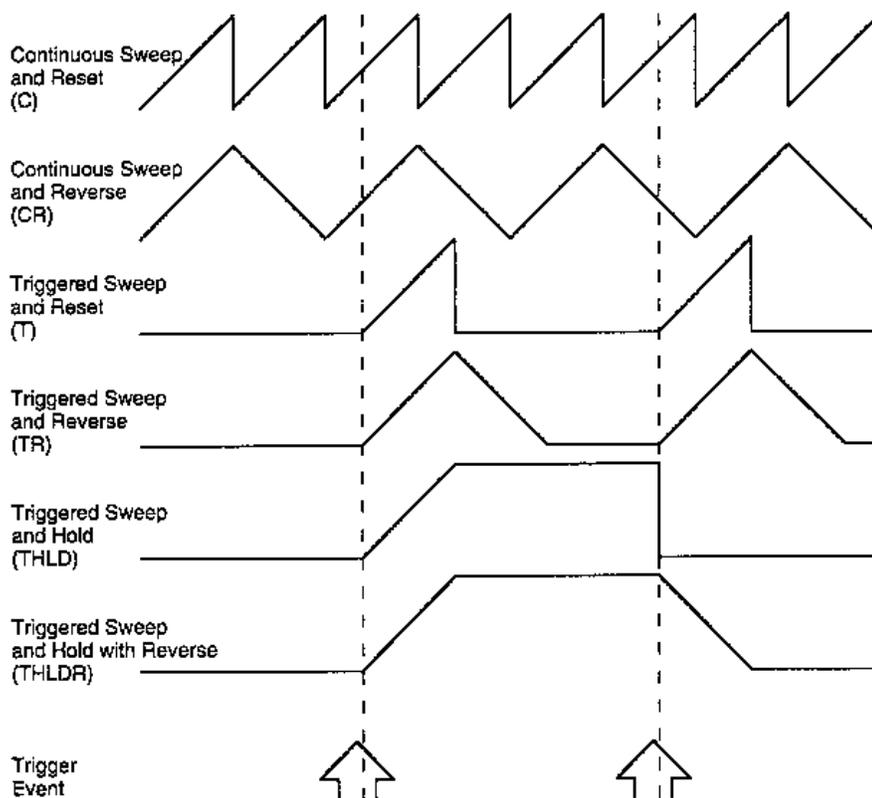

Figure 3-10. Sweep Mode Characteristics.
2. Note that the Sweep Mode (8) is Off and that none of the sweep mode indicators (7) are on.
3. Use Figure 3-10 to select a Sweep Mode. In the figure, the ramps represent the instantaneous value of oscillator frequency and the horizontal axis is time. Sweep Start frequency (9) is assumed to be set below Sweep Stop frequency (10), but this does not need to be the case. Therefore in this figure, the bottom of a ramp is the start, and the top of a ramp is the stop. The time of one ramp transition, either up or down, is the Sweep Time (12). An abrupt transition is a RESET, or ramp flyback time, and this is less than 1 ms.
4. After selecting a mode from the figure, set the generator to that Sweep Mode (8). Note that the appropriate Mode indicator (7) is on. The generator is now sweeping if a continuous mode is selected. Press the Trigger key (14) to initiate a sweep in a triggered mode. Connect the selected 50 Ω or 600 Ω output to an oscilloscope. The SWEEP OUT BNC (6) can then be used as an external trigger, second channel input triggering source, or as a X-axis input (X-Y horizontal mode) so that the frequency sweep can be synchronized and displayed on the scope. The default settings will result in a sweep between 1 kHz and 10 kHz at a 1 second rate. Modify the Start (9), Stop (10) and Time (12) settings as desired.
5. Using the LIN/LOG key (13), select either linear or logarithmic sweep function. The selection will turn on either the LIN or LOG indicator (16).
6. The sweep generator should now be set up with the desired sweep. The remaining controls and modes are used to locate features in the swept response of the unit or circuit under test and read out the frequency at the point of interest. For very slow sweep times, the Sweep Hold (15), frequency Monitor (41), and the Manual Sweep Mode (8) are most useful. For faster sweeps, the Sweep Marker (19) will be used.
7. To operate the frequency Monitor (41), set sweep time to a very slow sweep and press the key. The display will read out instantaneous frequency with a rapid update time. Trigger a sweep or allow it to run continuously, and observe the swept response as the display reads out the frequencies being covered.
8. For a better readout at a point of interest, press Hold (15) when the sweep is at a feature of interest. The sweep is held, and the display indicates the frequency being held at. Press the key again to resume sweeping.
9. To manually scroll back and forth frequencies being covered by the current sweep setup, select Manual Sweep Mode (8). The display reads out a number between 0000 and 1023, which corresponds to the 1024 frequency points being selected for each sweep. Therefore, this 4 digit number is a linear indication of position within a sweep. Use the numeric keypad to set a 4 digit number that positions the sweep in the general area of interest, and then use the control knob to fine set points of interest within the sweep.
10. For a fast sweep, such as filter adjustments, use the marker system. Press the Marker Select key (20) to turn on the MRKR indicator (17). The PEN LIFT/